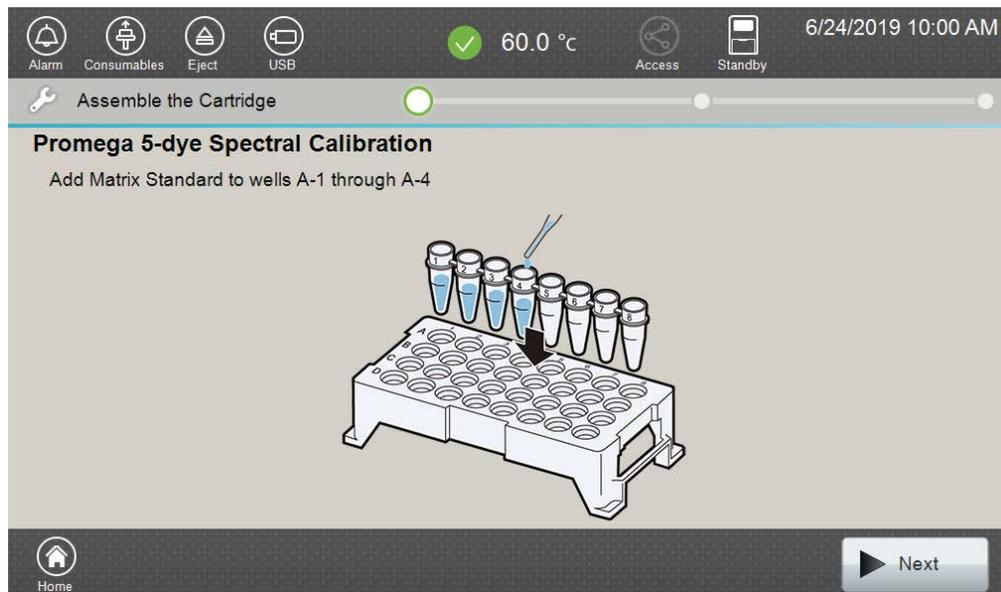

Figure 21. 'Assemble the Cartridge' screen.
4. Use the scroll arrows on the right-hand side of the "Dye Set List" screen (Figure 20) to find the correct Dye Set/Application Type/Polymer combination from the displayed list. To perform a spectral calibration using the PowerPlex® 5C Matrix Standard on Polymer4, select "Promega 5-dye" with "Fragment" and "Polymer4" as application and polymer types, respectively, then select **Calibration**. The 'Assemble the Cartridge' screen will open (Figure 21).
5. Select **Next** on the 'Assemble the Cartridge' screen (Figure 21). A message window will open indicating that the autosampler is moving and telling the user to not open the door. In addition, the status indicator flashes green while the autosampler is moving. After autosampler movement is complete, the message window closes and the status indicator returns to a steady green.